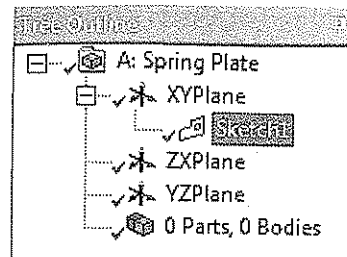

Figure 3-57 The Tree Outline with Sketch1 added to it
- 6. Choose the **New Sketch** tool from the **Active Plane/Sketch** toolbar; the new entry with the name **Sketch1** is added under the **XYPlane** node in the **Tree Outline**, refer to Figure 3-57.